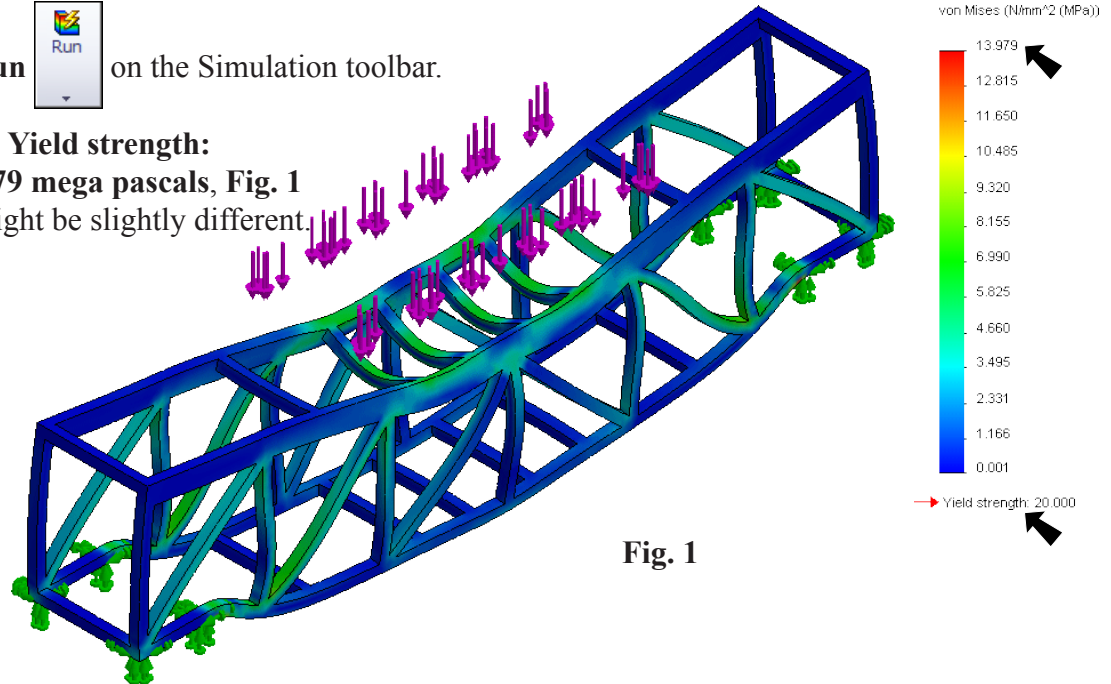

Fig. 1
**13.979 mega pascals**, Fig. 1